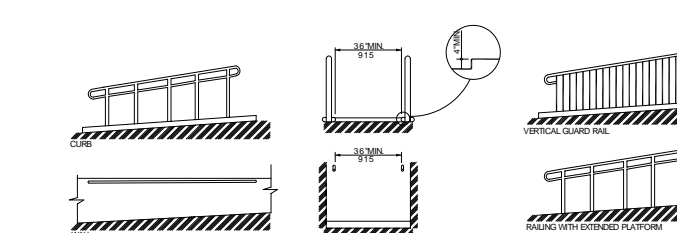

FIG. 17 EXAMPLES OF EDGE PROTECTION AND HANDRAIL EXTENSIONS. N.T.S.
- 4.8.7 EDGE PROTECTION. RAMPS AND LANDINGS WITH DROP-OFFS SHALL HAVE CURBS, WALLS, NOSINGS, OR PROTECTIVE SURFACES THAT PREVENT PEOPLE FROM SLIPPING OFF THE RAMP. CURBS SHALL BE A MINIMUM OF 2" (50mm) HIGH (SEE FIG. 17).